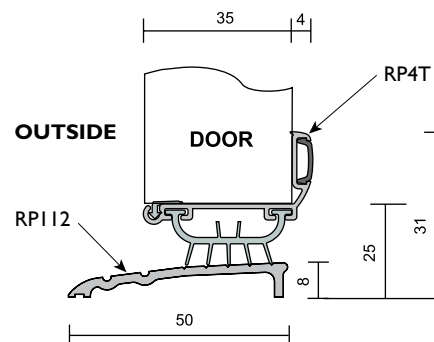

FIG.5
- » If threshold ramp protrudes from doorway, it may be necessary to provide a side return to comply with ASI 428.1 Part 7.5. Cut ends at 45° to create a mitre join, or a cement/grout ramp can be made (user determined) **(FIG.5)**.
Note: Use a length wider than door opening to provide a side return for a neat detail at door frame (user determined) **(FIG.5)**.